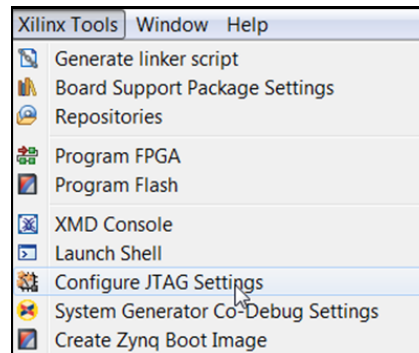

Figure 37: Configure JTAG Settings
1. Click **Xilinx Tools** and select **Configure JTAG Settings** (FIGURE 37).